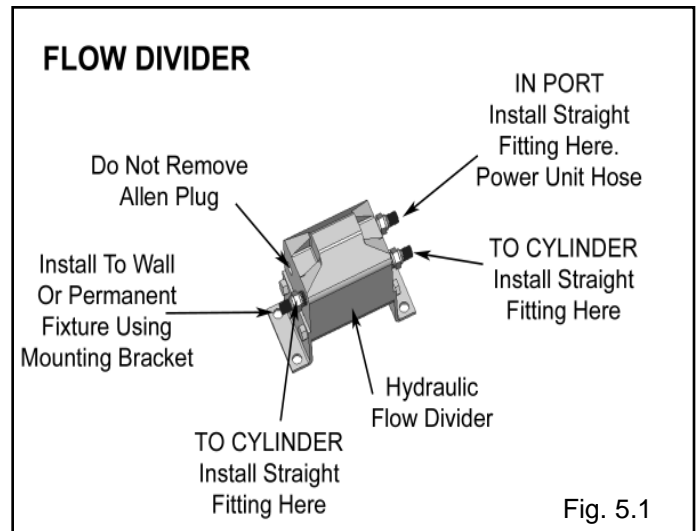

Fig. 5.1
1. Secure the hydraulic flow divider to a permanent wall or fixture (usually below grade) in an area that will allow the power hoses (the two hoses that are installed at the lift cylinders) to be equal length. (See Fig 5.1)
4. Connect the other end of the power unit hose to the fitting marked "IN" on the flow divider. (See Fig 5.1)
5. Connect the two remaining equal length hoses to the flow divider. (See Fig 5.1)